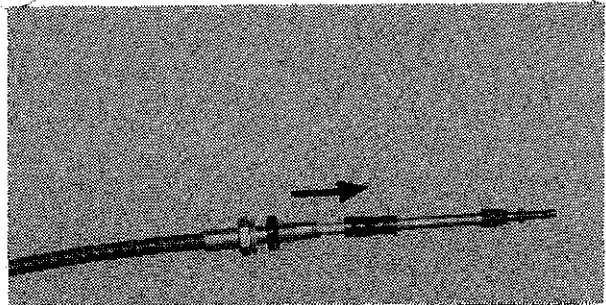

Figure 9
- Step 1 Pull back the black seal on the end of the cable to be attached to the linkage in the operating head(see figure 9.)